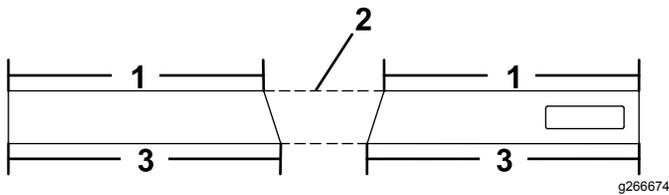

Figure 3
- Cut the belting as shown in Figure 3 using the specifications for your plow listed below: